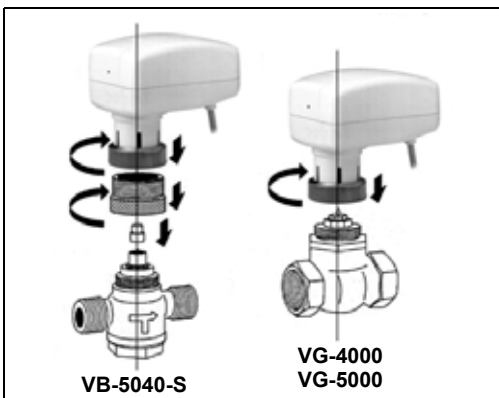

Figure 2: Mounting
**Mounting (Figure 2 and 2b)**